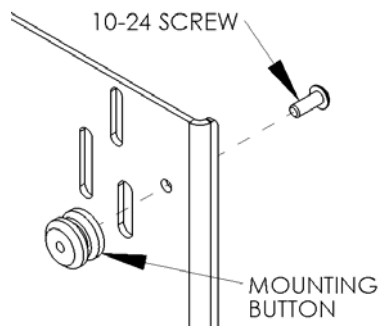
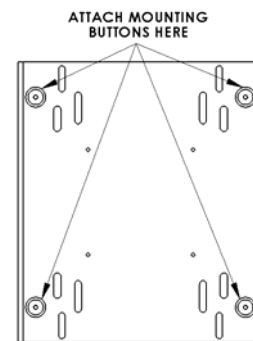

Figure 2
Figure 3
1. **Chief Q-latch Button Installation (Used with MSR, MTR, MWH, MWR, MCS and MCD mounts):** Using a 10-24 button head cap screw inserted from back side of bracket, secure mounting button, with chamfered hole of mounting button (larger surface) facing bracket, bracket (four places) (see Figure 2 & Figure 3).